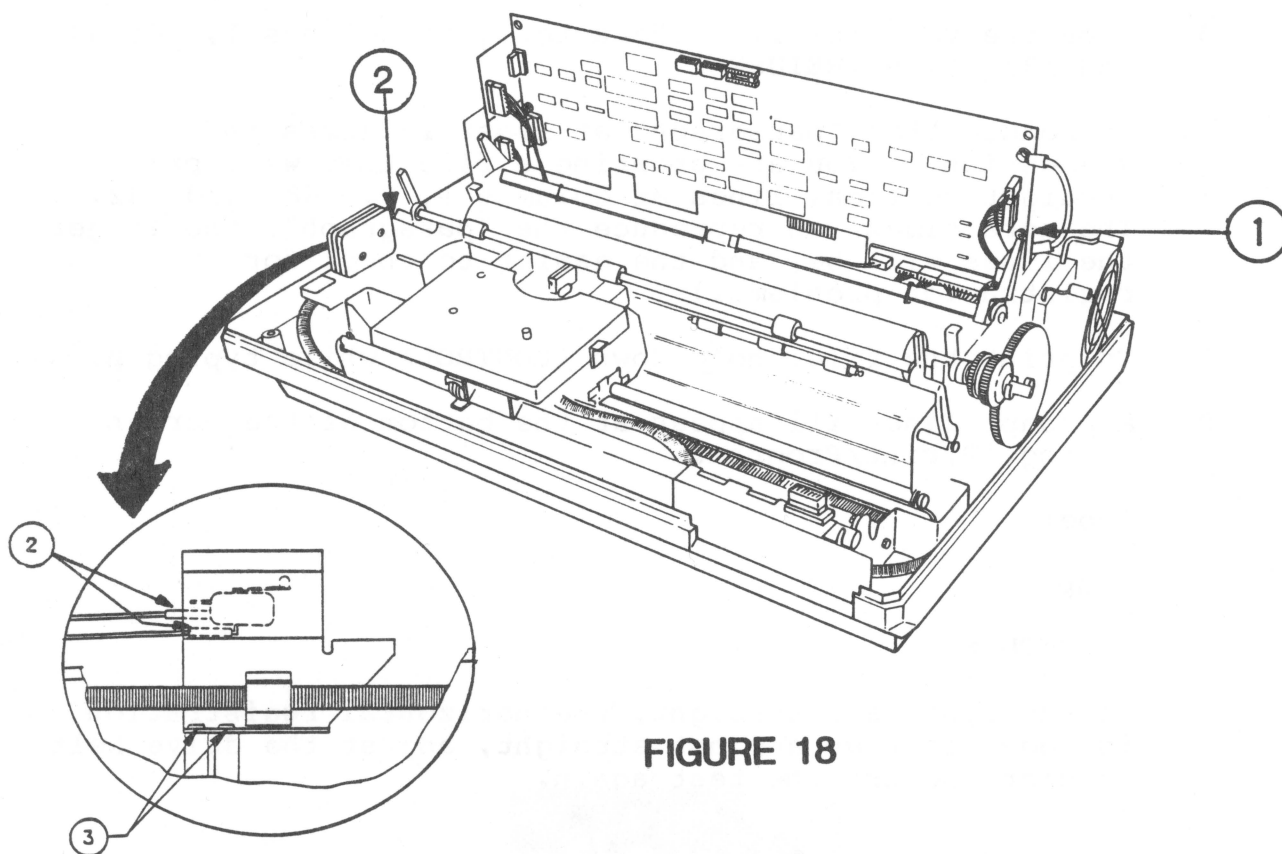

FIGURE 18
- \*4. Reconnect the two spade connectors to the cover interlock switch (Figure 18 and detail, #2). Remember that the upper pole of the switch is not used; the connectors attach to the lower two poles.
- \*8. Reconnect the ground wire to the back of the case, behind the main PCB (see Figure 18, #1).